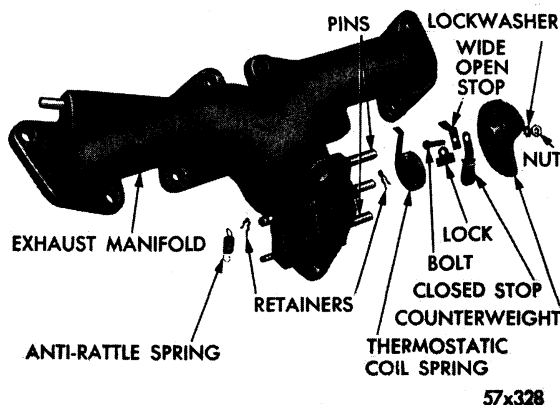

Fig. 57—Manifold Heat Control Valve
The manifold heat control valve, as shown in Fig. 57, is controlled by a thermostatic coil counterweight, and velocity of exhaust gas through exhaust manifold. The thermostatic coil is installed in a manner which will maintain sufficient tension on valve shaft to keep valve in closed position when engine is cold.
a. Disassembly (Fig. 57)